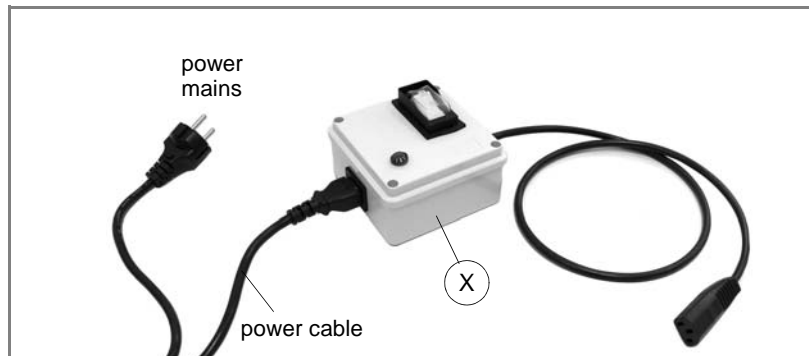

Fig. 6
First connect the safety device (X) (supplied with the 230V machines) to the key-cutting machine and the power cable then connect the free end of the power cable to the power mains (fig.6).